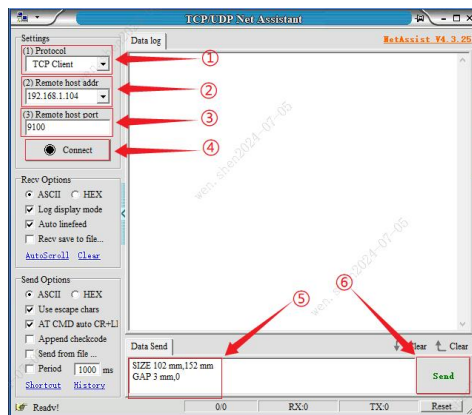

Fig.1
2. Open the host software. In the host software: (1) Select "TCP Client" as the protocol type; (2) Enter the IP address obtained from the configuration in the Remote Host address field. (3) Enter the TCP port number: 9100.
4. Enter the print command in the data sending area and click the "Send" button to print (shown in Fig. 1).